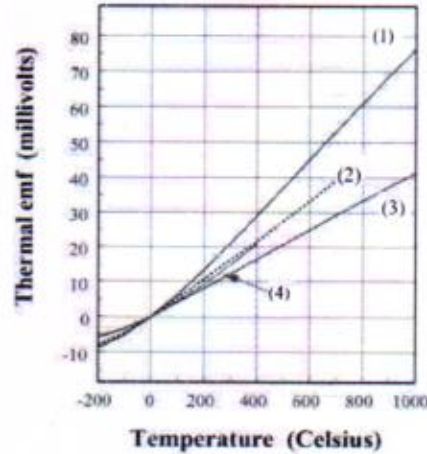

Figure 01: Thermocouple characteristics with reference junction at 0 °C
- c) i. The graphs (Figure 01) show that each thermocouple produces a different emf value for the same temperature. Identify each thermocouple type corresponding to the curves (1), (2), (3), and (4). (02 marks)